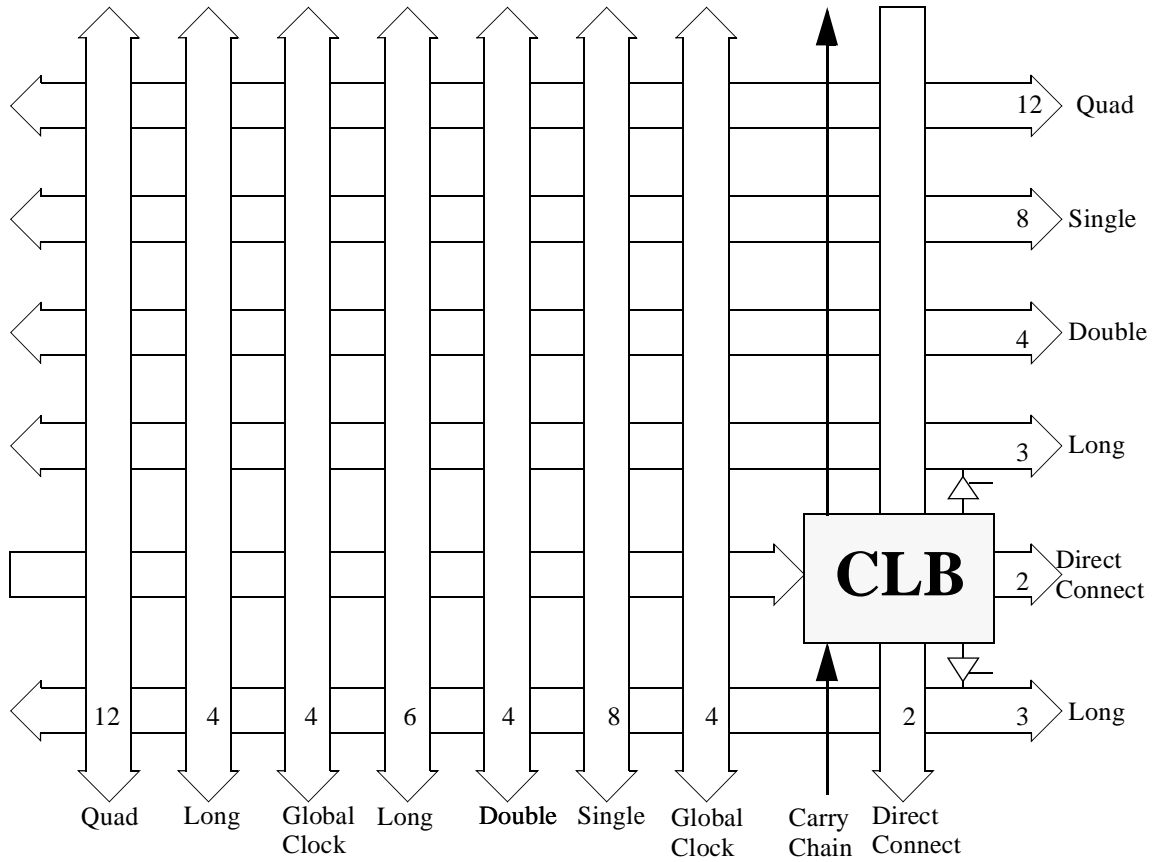

Figure 21 : High-level routing diagram of the XC4000EX series CLB
- The major difference between the FPGA and the CPLD (Complex Programmable Logic Device) are the routing options available in the former. See Figure 21.